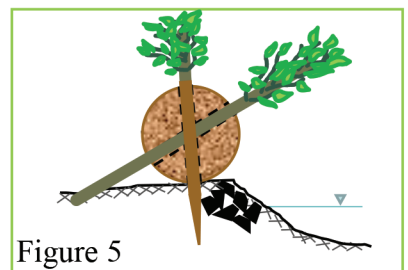

Figure 5
3. Drive anchor stakes through the vertical holes in the top of the BioD-SuperRoll™. It is recommended to use at least three anchor stakes (Figure 5 & 6).
4. Insert live plant cuttings through the exposed holes on the sides of the BioD-SuperRoll™. If there are unused vertical holes on the top, they too may be used to insert live plant cuttings (Figure 5 & 6).